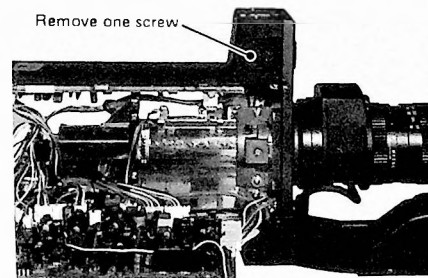

Fig. 7-9
- Remove the one screw by the EVF connector and move the upper cover as shown below. So that the control panel fixing screws can be observed. (Fig. 7-9, 7-10)